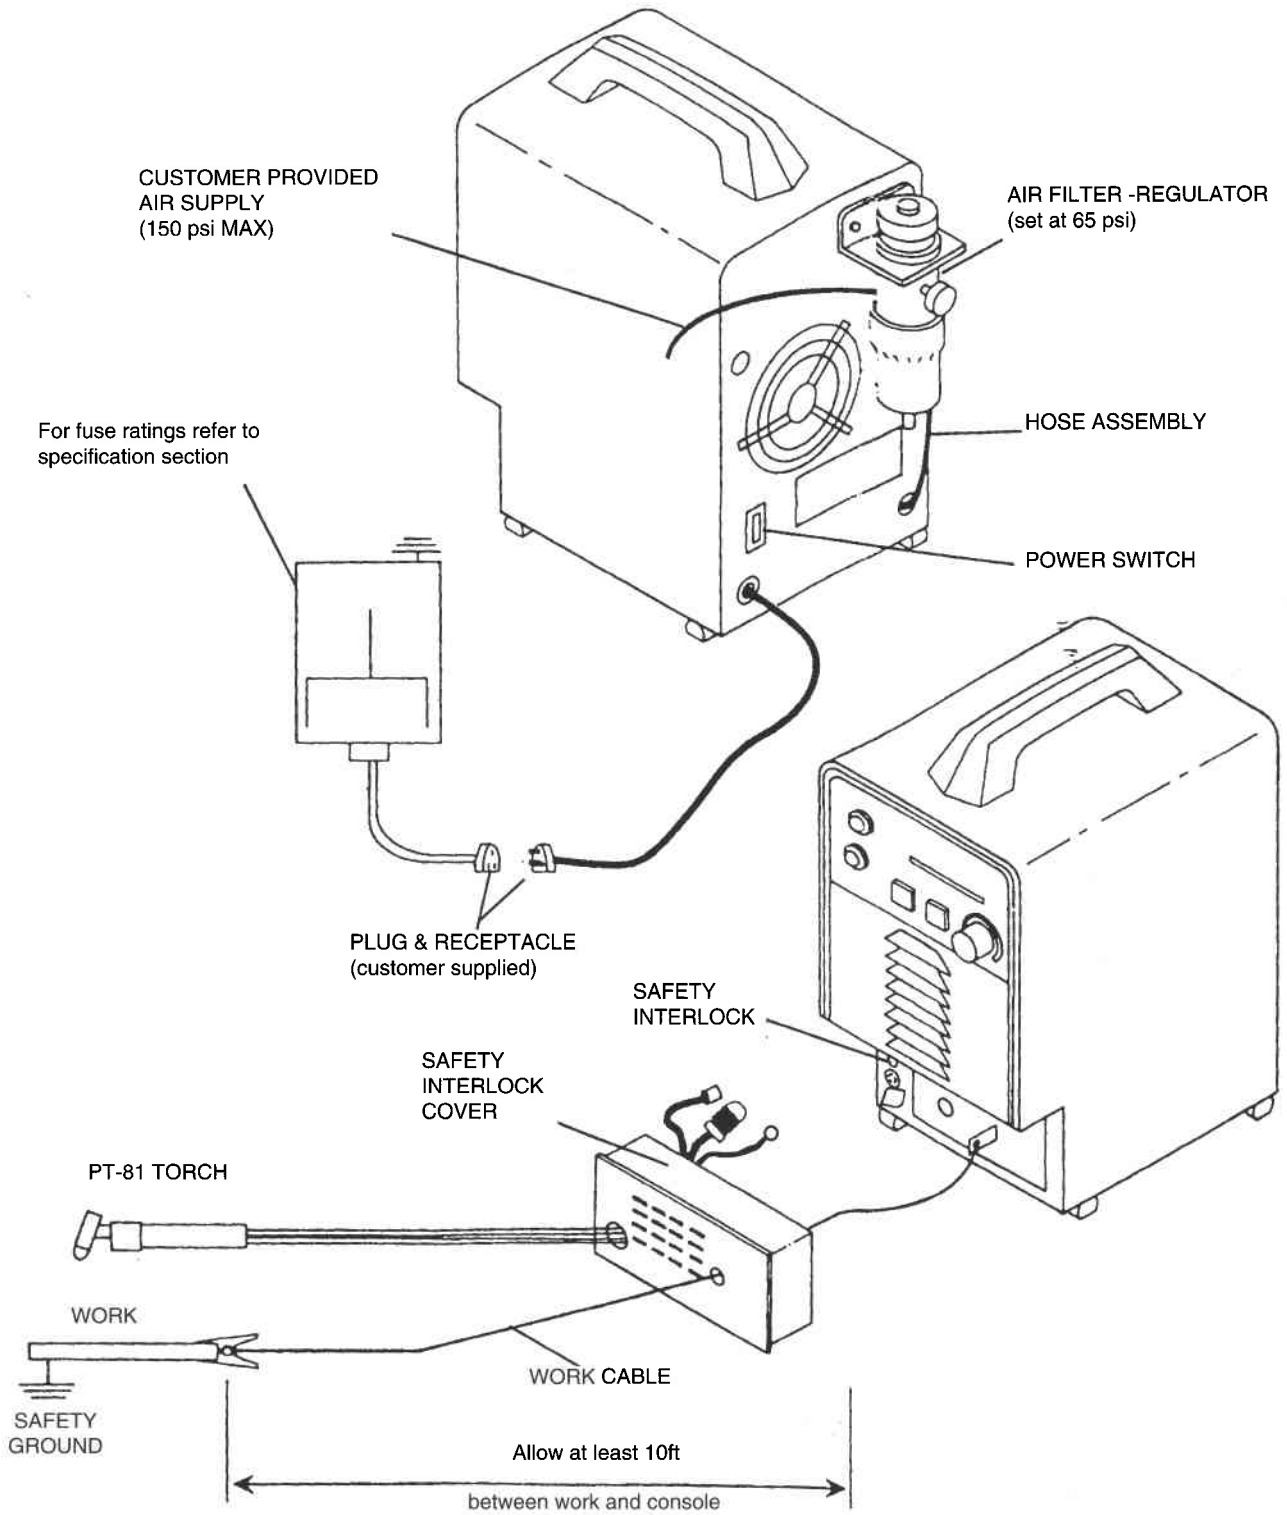

Figure 3. Sabre-arc Interconnection diagram
6. Connect the workpiece at work table to an approved earth ground with a properly sized ground cable refer to figs 3 & 4.